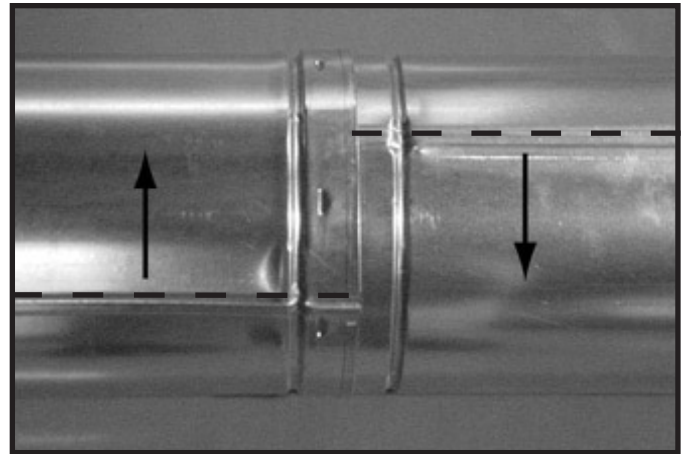
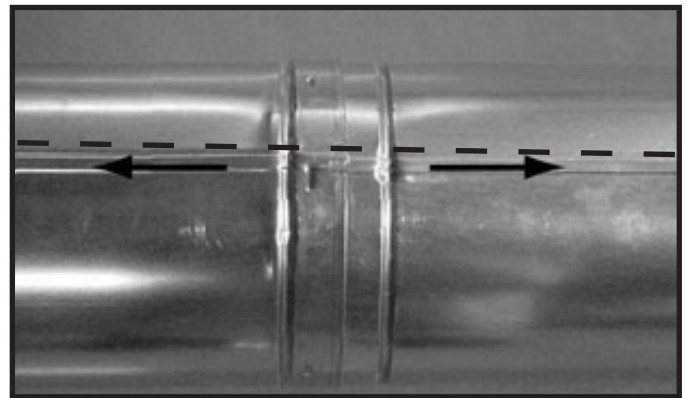

Figure 7.9 Rotate Seams for Disassembly
Figure 7.10 Align and Disassemble Vent Sections
- Rotate either section (see Figure 7.9) so the seams on both pipe sections are aligned as shown in Figure 7.10.